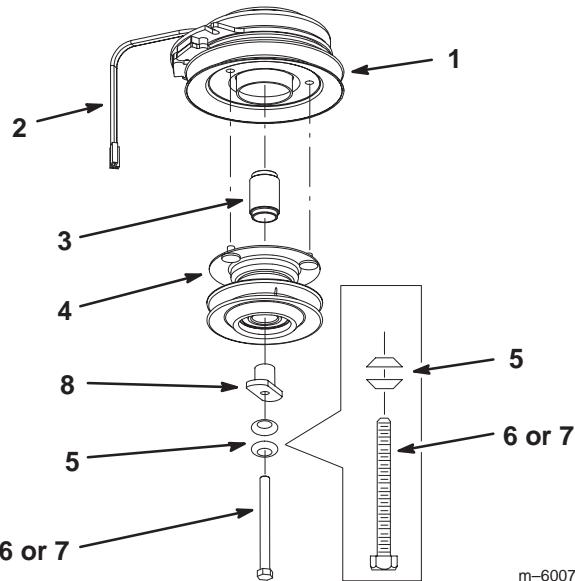

Figure 5
1. Install the new pulley spacer into the clutch (Fig. 5).
2. Install the drive pulley assembly into the three holes drilled into the clutch pulley (Fig. 5).
3. Install the drive spacer into the drive pulley assembly (Fig. 5).
4. If the machine has a Kawasaki® engine, then install the clutch with a bolt (7/16 x 5-1/2 in.) and 2 existing curved washers (Fig. 5).
5. If the machine has a Kohler® engine, then install the clutch with a bolt (7/16 x 4-3/4 in.) and 2 existing curved washers (Fig. 5).
6. Torque the clutch bolt to **55 ft.-lb. (75 N•m)** (Fig. 5).